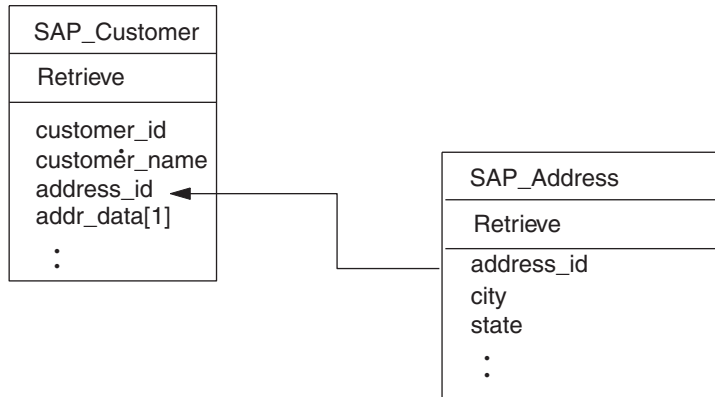

Figure 30. Example customer and address relationship
- In a single-cardinality relationship, the foreign key is determined by the primary key in the child referencing a **non-key** attribute in the parent as its foreign key. Each child has at least one simple attribute that references a non-primary key attribute in its parent as a foreign key. Figure 30 on page 214 provides an example.
Figure 30 on page 214 provides an example of a simple WebSphere business object developed to process customer objects in SAP. This example SAP_Customer has a single-cardinality relationship to the example address object that it contains (the `addr_data[1]` attribute has cardinality 1). The primary key attribute (`address_id`) in the child business object references a non-primary key (`address_id`) in the parent business object.